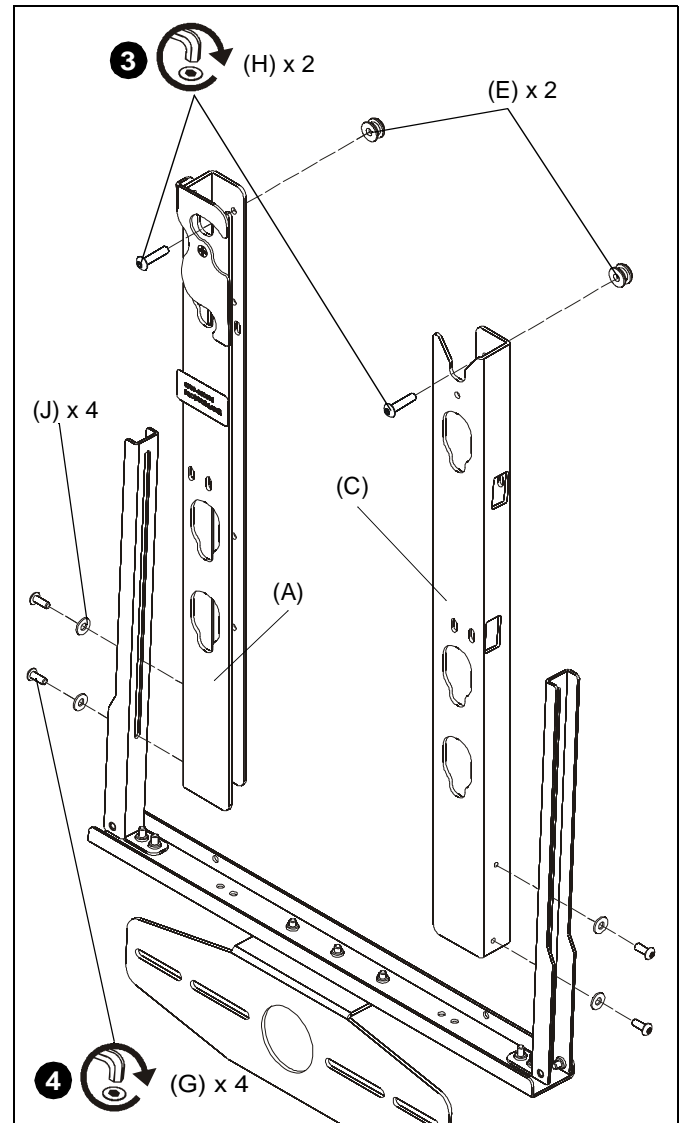

Figure 2
3. Install two mounting buttons (E) to uprights (A and C) using four #10-24 x 7/8" button head cap screws (H). (See Figure 2)
4. Connect left and right uprights (A and C) to height adjust brackets (B) using four #10-24 x 1/2" button head cap screws (G) and four #10 washers (J). (See Figure 2)